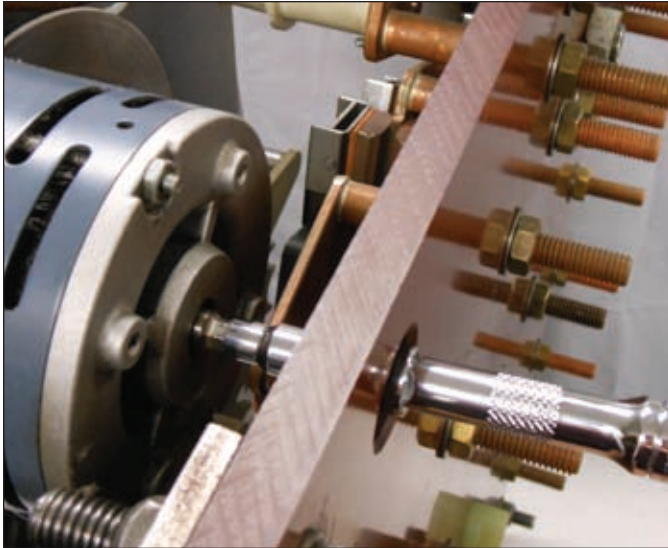

Figure 2.
1. Using a 1/4 inch (3/8 inch for newer tap-changer motors) socket, socket extension and a ratchet and place the socket onto the output shaft of the motor. See Figure 2.